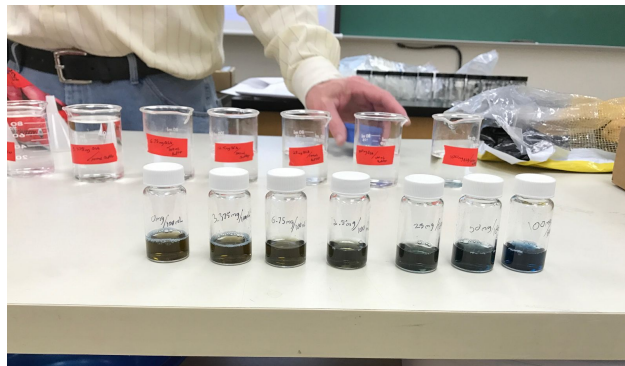

Figure 4: In this picture you can see the **BEFORE** solutions with an assortment of dilutions moving from left to right in a 0 to 100 mg per 100 mL.
6. 5.000 mL of prepared dye reagent were added to all seven of the standard concentrate vials and the two potato sample vials (Fig 4).
The seven sample vials with protein concentrations of 0.0365, 0.0675, 0.1250, 0.2500, 0.5000, and 1.000 underwent color changes when Bio-rad dye was added (Figure 4). The vial sample solutions increased in deep blue color from least protein concentrated to most protein concentrated. This means that as protein concentration increases, the blue color of the dye increases, and the vials can act as a color code system for estimating the protein concentration of the two potatoes! And, the blue color system is just COOL to watch!